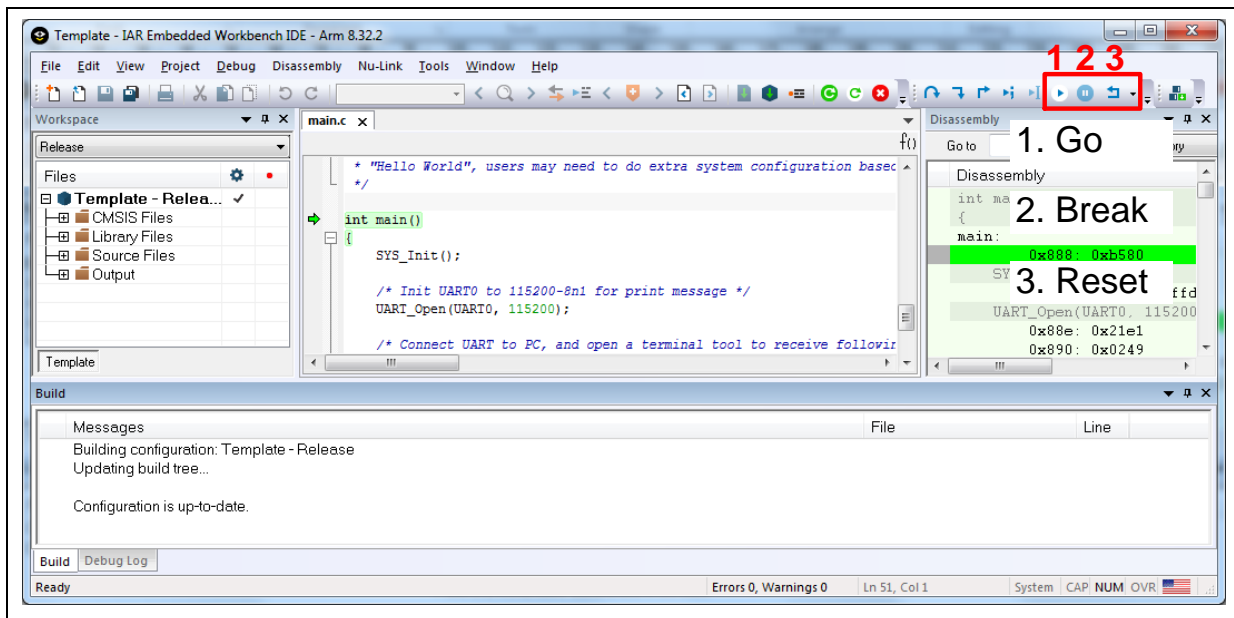
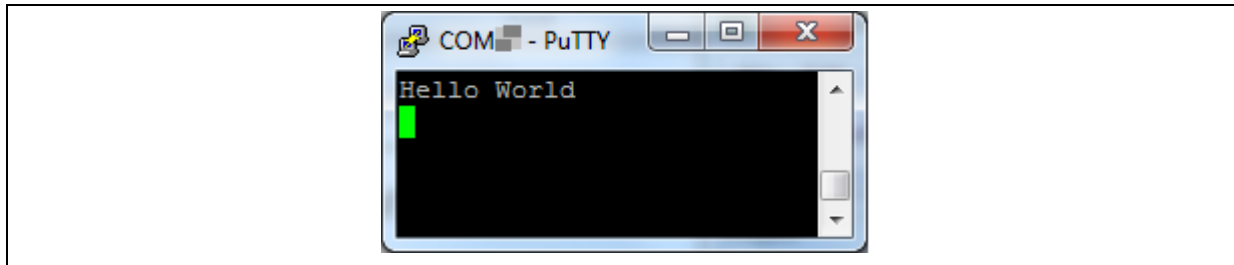

Figure 3-17 IAR EWARM Debug Mode
Figure 3-18 Debug Message on Serial Port Terminal Windows
- Figure 3-17 shows the debug mode under IAR EWARM. Click “Go” and the debug message will be printed out as shown in Figure 3-18. User can debug the project under debug mode by checking source code, assembly language, peripherals’ registers, and setting breakpoint, step run, value monitor, etc.